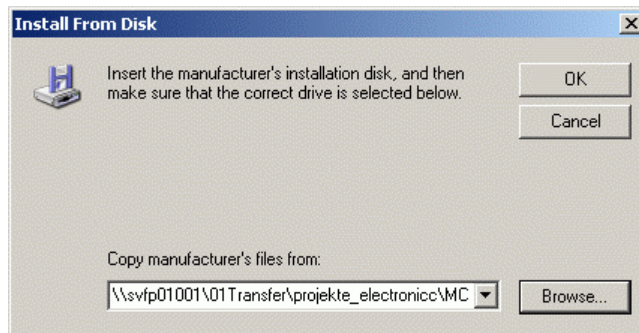

Fig. 2-13: Open installation file
6. Confirm the selected file with **[OK]** (see Fig. 2-13).